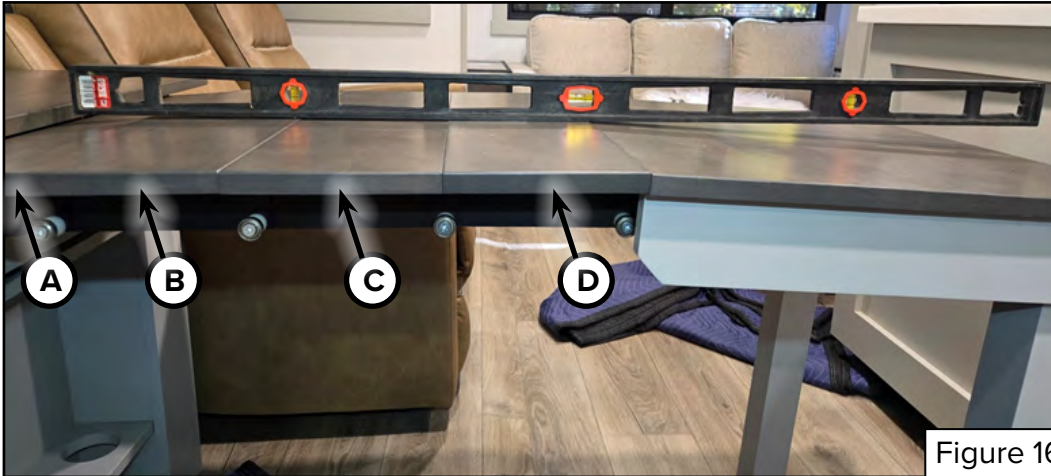

Figure 16
17. The reason there is an arc when the Dinesk™ is extended (Figure 16) is because the wood panels (4 of them - Figure 16A, B, C, D) are too tight against each other preventing the Dinesk™ brackets (Figure 17A) that allow each piece to tilt and roll into and out of the cabinet to function correctly.